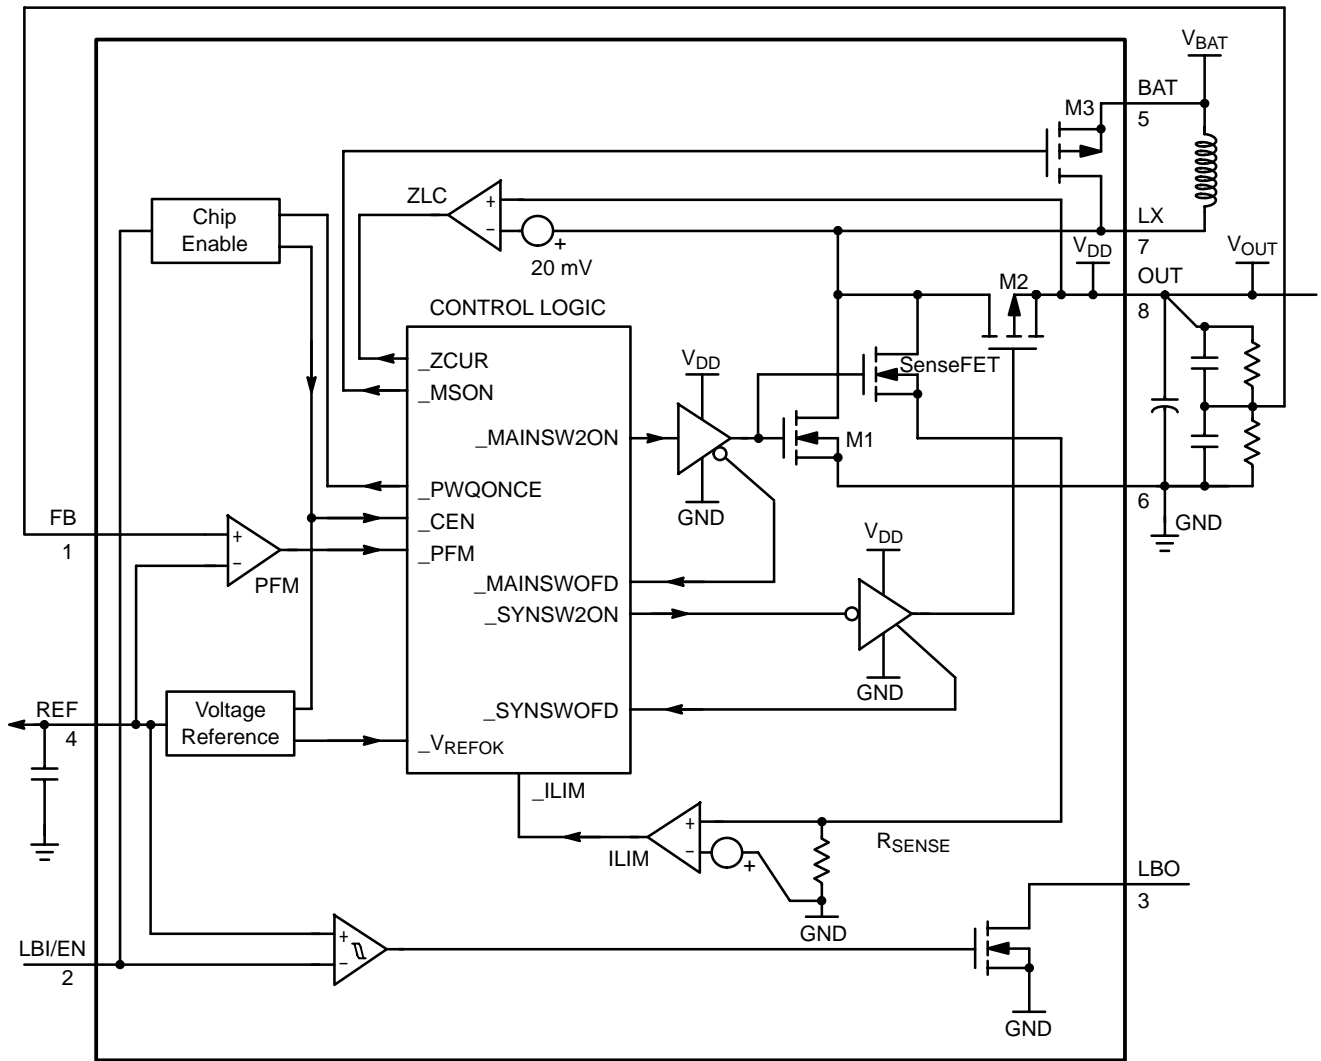

Figure 2. Simplified Functional Diagram
From the simplified Functional Diagram (Figure 2), the output voltage is divided down and fed back to pin 1 (FB). This voltage goes to the non-inverting input of the PFM comparator whereas the comparator's inverting input is connected to REF. A switching cycle is initiated by the falling edge of the comparator, at the moment, the main switch (M1) is turned ON. After the maximum ON-time (typical 1.4 μ S) elapses or the current limit is reached, M1 is turned OFF, and the synchronous switch (M2) is turned ON. The M1 OFF time is not less than the minimum OFF-time (typical 0.31 μ S), this is to ensure energy transfer from the inductor to the output capacitor. If the regulator is operating at continuous conduction mode (CCM), M2 is turned OFF just before M1 is supposed to be ON again. If the regulator is operating at discontinuous conduction mode (DCM), which means the coil current will decrease to zero before the next cycle, M1 is turned OFF as the coil current is almost reaching zero. The comparator (ZLC) with fixed offset is dedicated to sense the voltage drop across M2 as it is conducting, when the voltage drop is below the offset, the ZLC comparator output goes HIGH, and M2 is turned OFF. Negative feedback of closed loop operation regulates voltage at pin 1 (FB) equal to the internal voltage reference (1.190 V).
From Figure 2, SenseFET is applied to sample the coil current as M1 is ON. With that sample current flowing through a sense resistor, sense-voltage is developed. Threshold detector (ILIM) detects whether the sense-voltage is higher than preset level. If it happens, detector output signifies the CONTROL LOGIC to switch OFF M1, and M1 can only be switched ON as next cycle starts after the minimum OFF-time (typical 0.31 μ S). With properly sizing of SenseFET and sense resistor, the peak coil current limit is set at 1.0 A typically.